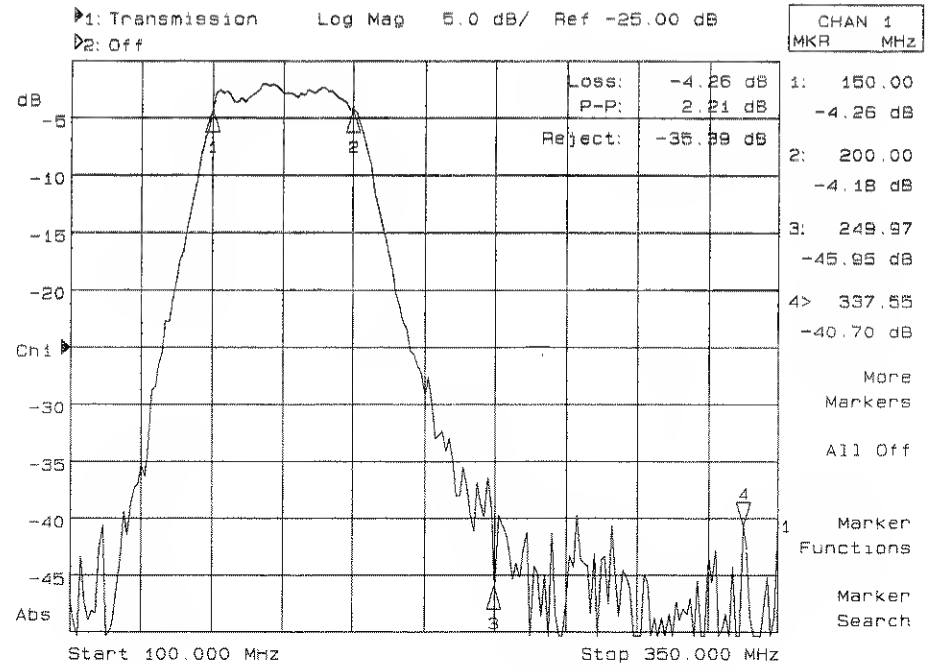

Figure 4-14. RF Filter Statistics Function
4. See Figure 4-14 for an example of an RF filter stats search.